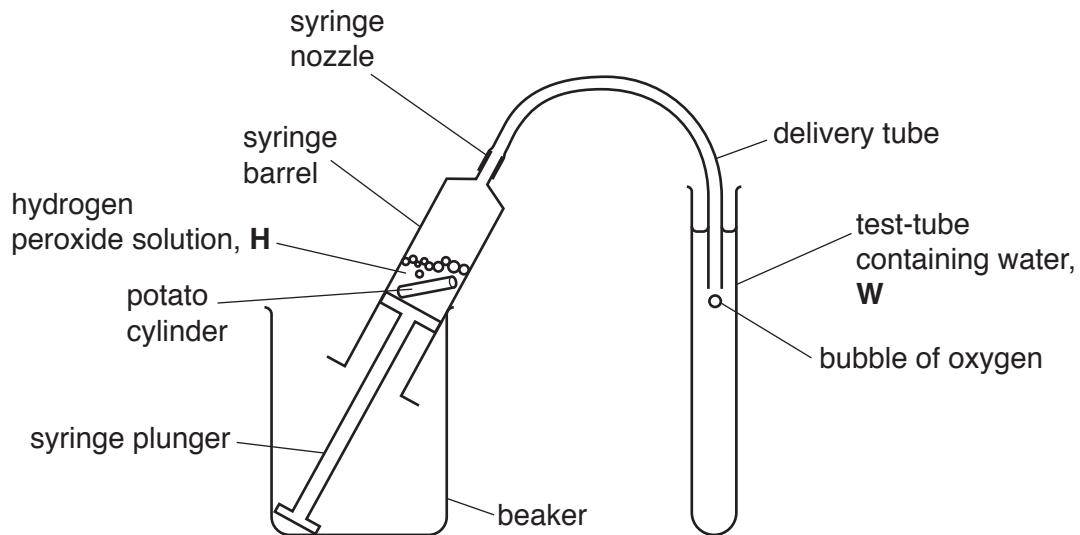

Fig. 1.4
You will use the apparatus as shown in Fig. 1.4.
(v) Describe how you will standardise the position of the delivery tube in the test-tube of water, as shown in Fig. 1.4.
4. Set up the test-tube with **W** and the delivery tube, as shown in Fig. 1.4 and described in (a)(v). Do **not** attach the tubing to the syringe. You may stand the test-tube in the test-tube rack provided.
14. Put the syringe into a beaker as shown in Fig. 1.4 (page 5).